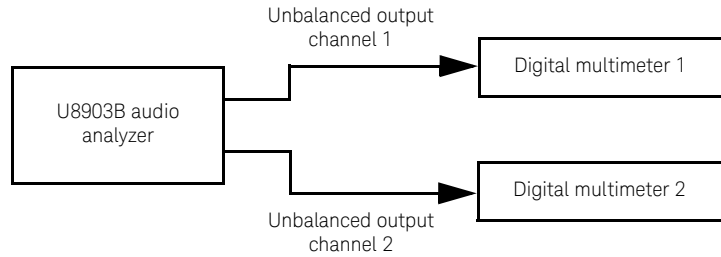

Figure 2-2 U8903B to digital multimeter connections for sine wave amplitude accuracy and flatness verification
- 1 Connect the U8903B generator Unbalanced output channel 1 to the first digital multimeter and Unbalanced output channel 2 to the second digital multimeter as shown in **Figure 2-2**. Coaxial cables with BNC connectors are used for this connection. Preset both the U8903B and digital multimeters.